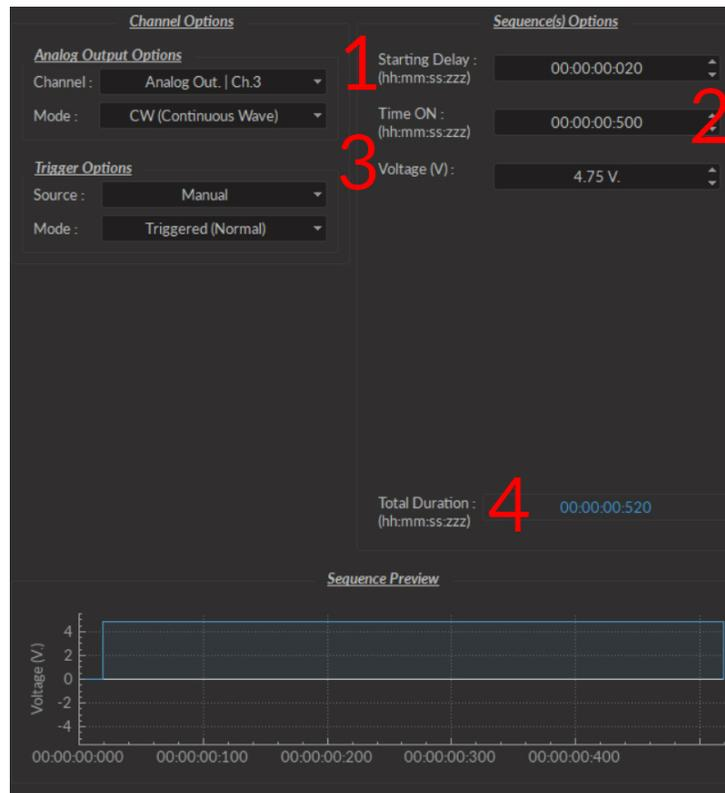

Figure 3.10: Channel(s) configuration window, Analog Output CW
- The **CW (Continuous wave)** channel mode (Fig. 3.10) allows the creation of a continuous analog signal. The following elements appear in the **Sequence Options** box.
1. The **Starting Delay** (Fig. 3.10) defines the time between the activation of the pulse sequence and the beginning of the signal.
2. The **Time ON** (Fig. 3.10) defines the length of time the continuous signal is active. Should the time chosen be 0, the signal will continue until the pulse sequence is stopped manually.
3. The **Voltage** (Fig. 3.10) defines the voltage of the continuous signal, in volts. The signal cannot go beyond  $\pm 4.75$  V.
4. The **Total Duration** (Fig. 3.10) shows the total expected duration of the pulse sequence. Should the duration be infinite, the box will display  $\infty$ . If there is an error in parameter selection, this box will display **N/A**.